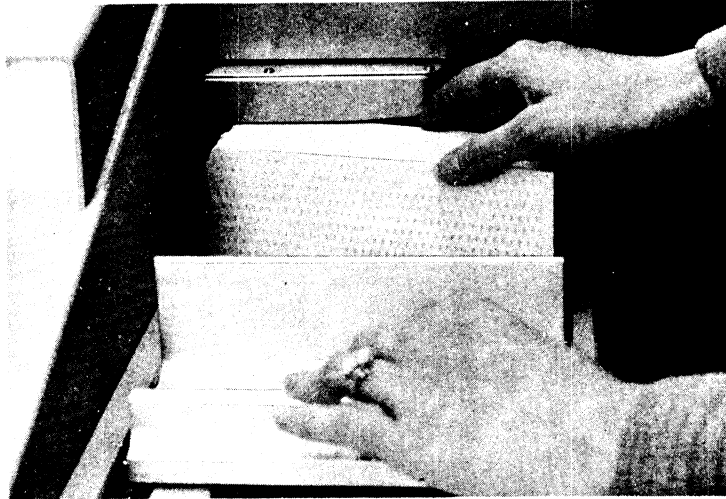

Figure 17. Removing All Cards from Stacker
3. Firmly grasp the cards to be removed with the right hand and lift them out of the stacker. Remove all cards or leave a small stack, as desired. (See Figure 17.)